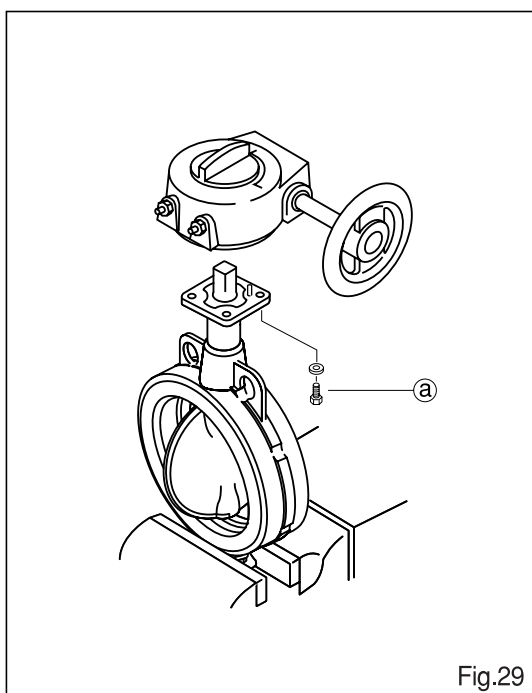

Fig.29
2. Gear operation type (Fig.29)